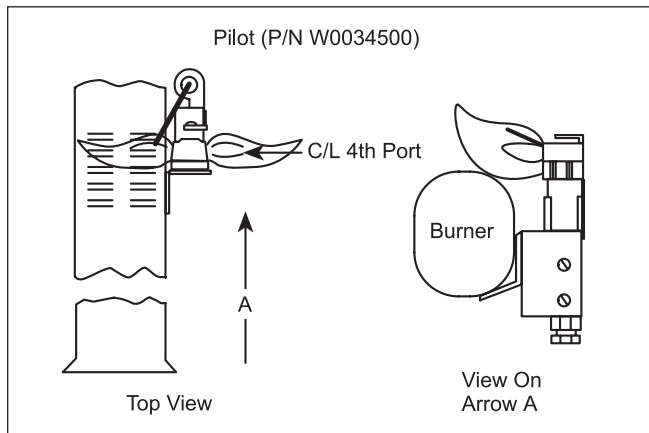

Figure 9. Pilot Location.
- At start-up and every six (6) months thereafter, the pilot and main burner flame should be observed for proper performance (see Figures 9 and 10; see attached lighting and shutdown instructions for proper pilot flame pattern). If flame has the appearance of “sooting” tips, check for debris near orifices. Call service technician.